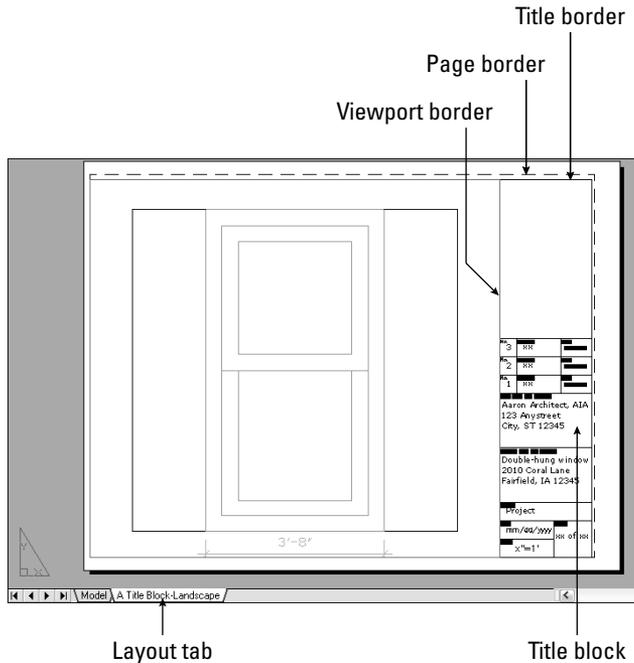

Figure 1-7: The window with a title block as it appears on the layout tab.
20. To prepare for printing, click the layout tab, A Title Block-Landscape. You see the window inside a title block and border, as shown in Figure 1-7. This title block and border comes with the template to help you easily prepare the drawing for printing. (Chapter 17 explains how to lay out and print/plot a drawing.)
21. To set the scale for printing, click the magenta viewport border (labeled in Figure 1-7). Choose Tools ⇄ Properties. In the Properties palette, click the Standard Scale item. Click the down arrow that appears to the right of this item and choose 1"=1'. Click the Properties palette's close button at the top of the palette. (I explain more about scales in Chapter 5.)